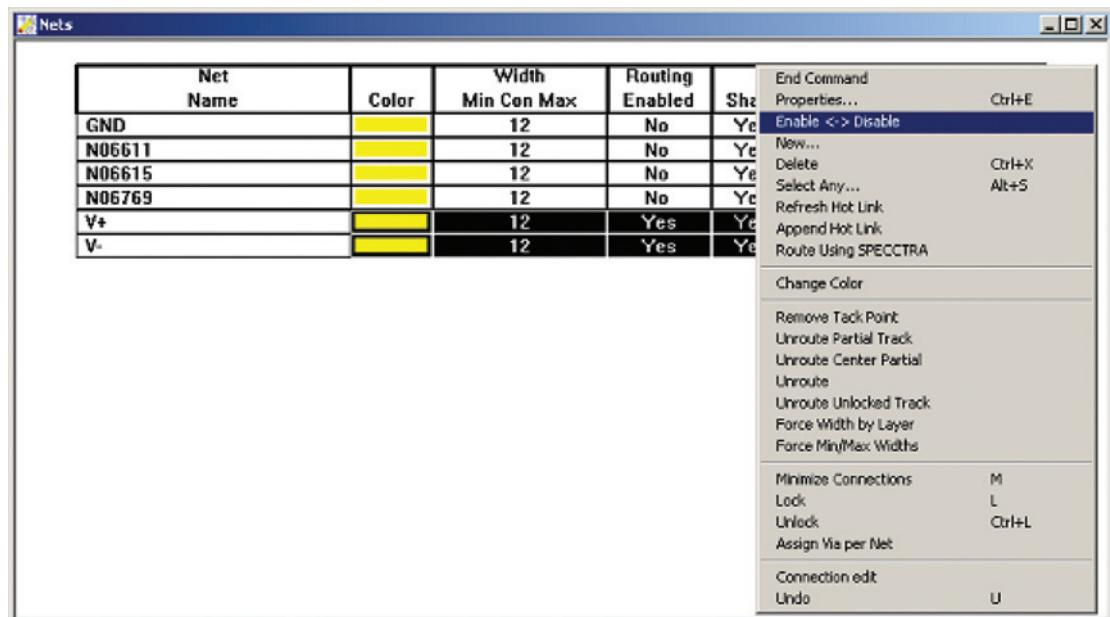

Figure 9-36 Enabling and disabling nets.
**To enable and disable nets** open the **Nets** spreadsheet by clicking the **View Spreadsheet** button,  and select **Nets** from the pop-up. Toggle the **Routing Enabled** property (see Fig. 9-36) by selecting (highlighting) a net (or nets). Right click and toggle the **Enable <-> Disable** selection. Disable all nets except the V+ and V– nets.